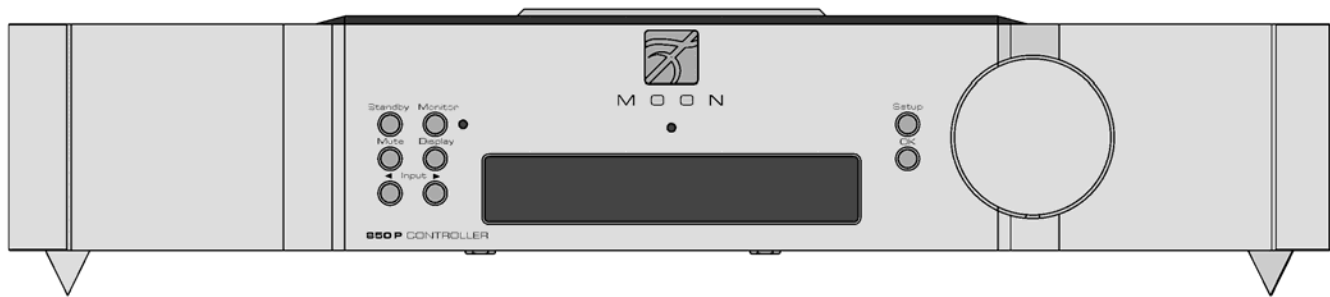

Figure 2: Front panel of MOON 850P dual-mono Controller
The front panel will look similar to Figure 2 (above). The large display window normally indicates the current volume level and, whenever you change the input, it will briefly show the selected input. On the left side of the display window, are six (6) buttons. On the right side of the display are two (2) more buttons and a large rotary volume control. for a total of eight (8) buttons which are all described in detail below: